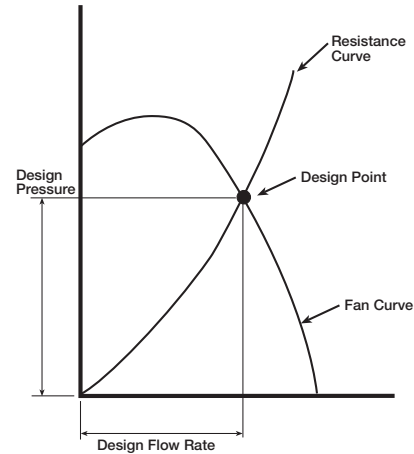

figure 4
**Figure 4** shows that the system curve always starts at the origin where flow and pressure are zero. The fan will operate at the point where the system resistance curve intersects the fan curve. For a constant system, with no change in damper settings, etc. the pressure at a given flow varies as the square of the airflow. The only time the shape of the system resistance curve changes is when the system physically changes. For instance, if a damper is opened, the system resistance is reduced. The result is a lower pressure drop. Closing a damper, or when filters become dirty, increases the system's resistance.